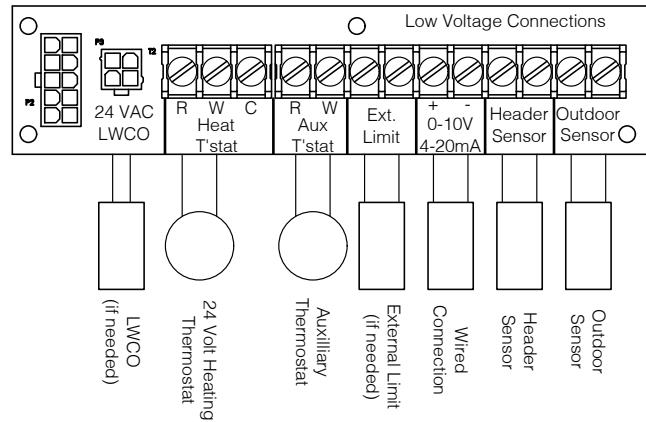

Figure 12-3: Low Voltage Connections
NOTICE: Boiler is equipped with a UL 353 listed high water temperature limit. This limit provides boiler shutdown in event boiler water temperature exceeds setpoint of control. Certain local codes require an additional water temperature limit. If necessary, install an additional water temperature limit (Honeywell L4006 Aquastat). Wire as indicated in Figure 12-3.
- All low voltage field connections to boiler are made on Low Voltage Connections terminal strip (see Figure 12-3) located on left side of bottom panel. Route all low voltage wiring through conduit knock out holes located on left side in front of terminal strip.